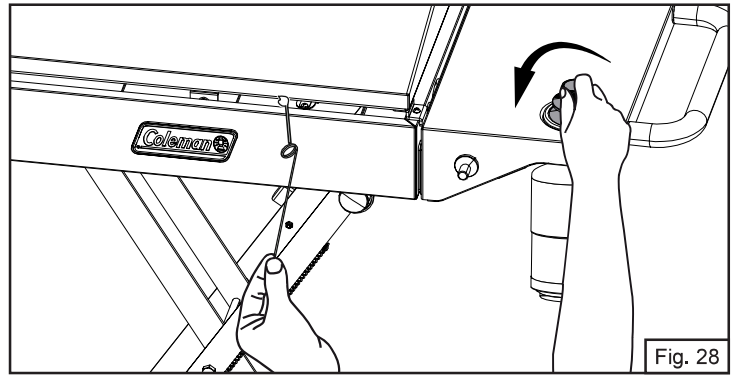

Fig. 28
1. Strike and place the burning long wooden match (or use the match extension or a butane lighter with extension) through the spaces in the appliance near the ports of the burner (Fig. 28).